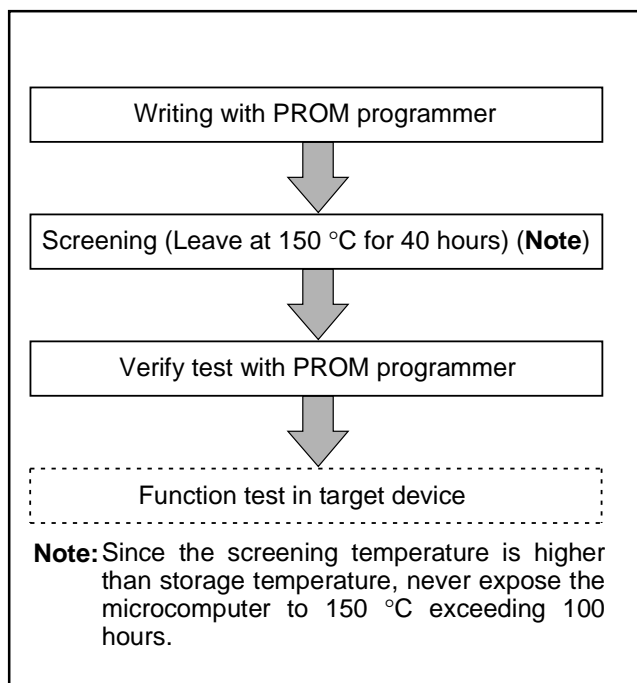

Fig. 56 Flow of writing and test of the product shipped in blank
(2) Notes on handling
① For the One Time PROM version shipped in blank, Renesas corp. does not perform PROM writing test and screening in the assembly process and following processes. In order to improve reliability after writing, performing writing and test according to the flow shown in Figure 56 before using is recommended (Products shipped in blank: PROM contents is not written in factory when shipped).
(3) Difference between Mask ROM version and One Time PROM version